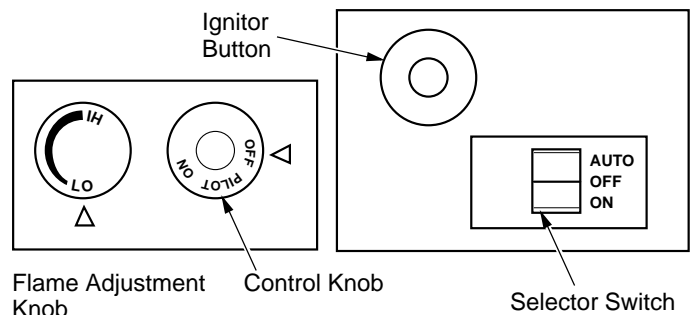

Figure 32 - Control Knob and Ignitor Button Location (Shown as Supplied, No Control Options)
- Wait five (5) minutes to clear out any gas. Then smell for gas, including near the floor. If you smell gas, STOP! Follow "B" in the safety information in column 1. If you don't smell gas, go to the next step.
- Press in and turn control knob counterclockwise  to the PILOT position. Press in control knob for five (5) seconds (see Figure 32).